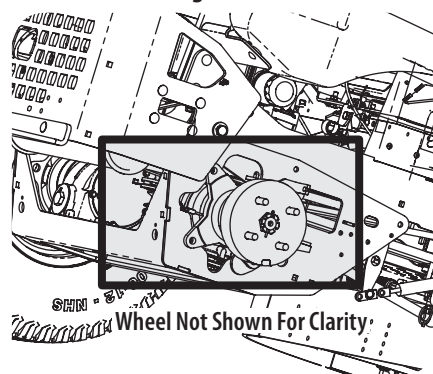

Figure 19
- Clean around and near the transmission, axle and the fan area. See Figure 19.